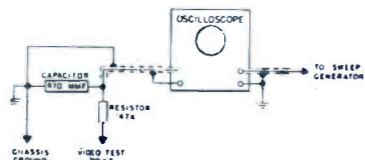

Figure 6 - Oscilloscope Connections
5. Remove the V.T.V.M. and connect the vertical input of the oscilloscope to point "B" See Fig. 14 . . . using the isolation network as shown in Fig. 6.